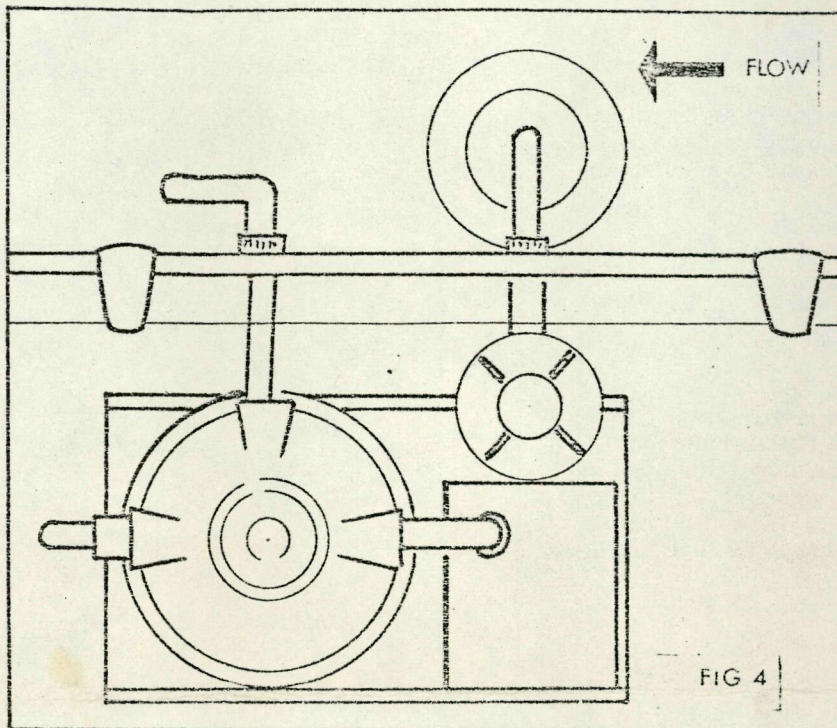

FIG 4
1. Push standard elbow (5) through return to pool hole in wall.
2. Place thick black washer (42) over threads inside pool (against liner).
3. Screw hexagonal nut (3) firmly onto elbow.
4. Screw discharge flow director (4) onto elbow using washer (1). Face flow director away from skimmer. Fig. 4.